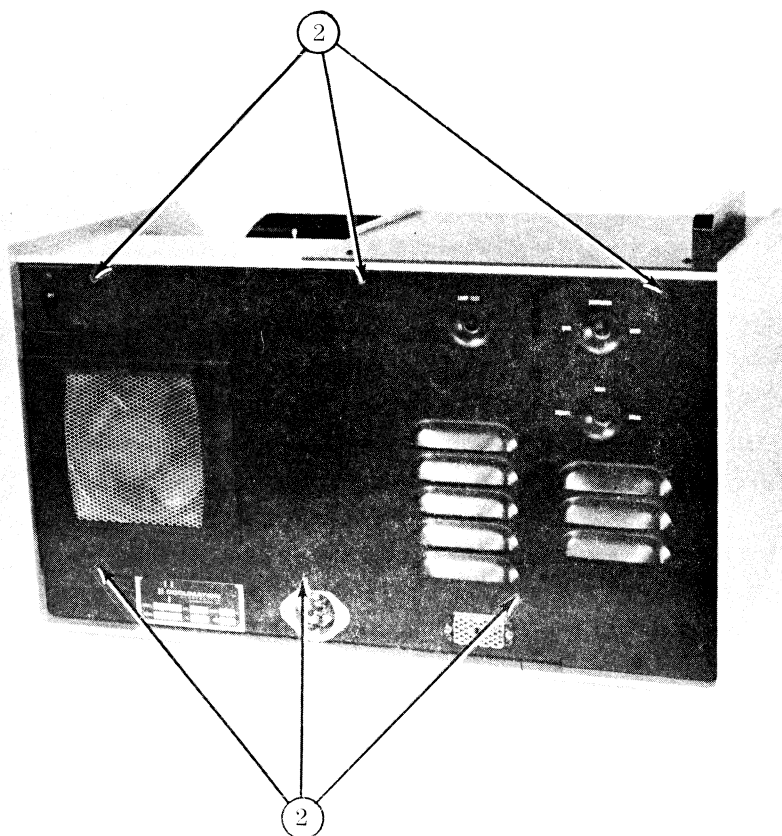

Figure 6-2. Rear Panel Removal
- c. Using a 5/64 Allen wrench, remove six screws (2), figure 6-2, which hold the rear panel.